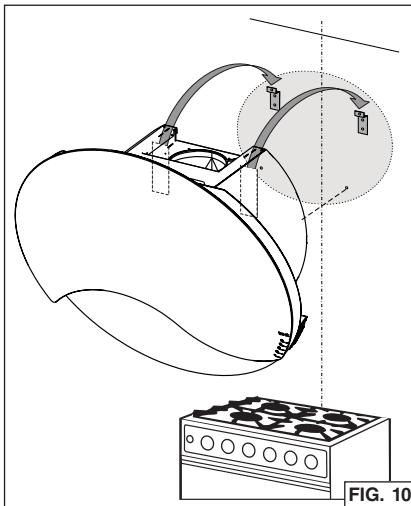

FIG. 10
4. Install hood onto (2) wall mounting brackets. Make sure hood is level with floor. Fig. 10.